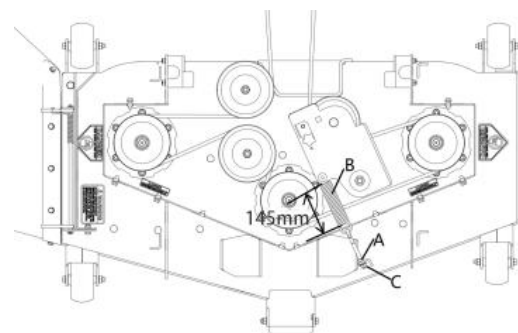

Fig. 19
The belt tension is set at the factory, but may need adjustment after **the first hour of initial use**. Periodically belt should be checked for proper tension, following the procedure below(Refer to Fig. 19).
- Loosen the lock nut (A) and adjust the nut (C) to change belt tension.
- Increase belt tension by turning the nut (C) clockwise and decrease belt tension by turning the nut counterclockwise(Refer to Fig. 19).
- The idler spring (B) body length should measure approximately 145mm for proper belt tension.
- Tighten the lock nut (A) when the proper belt tension is achieved.